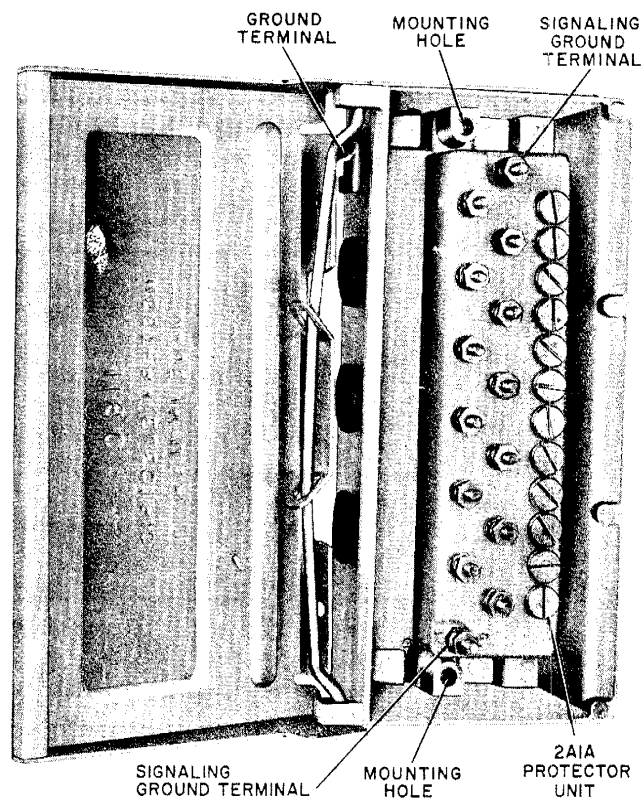

Fig. 3—116C Protector
2.06 The 116C Protector is a molded terminal block containing twelve binding posts, twelve 2A1A Protector Units, and two binding posts for signaling ground connections. The terminal is housed in a metal container with a hinged metal cover. The metal housing is equipped with a clamp for connecting the station ground wire (Fig. 3).